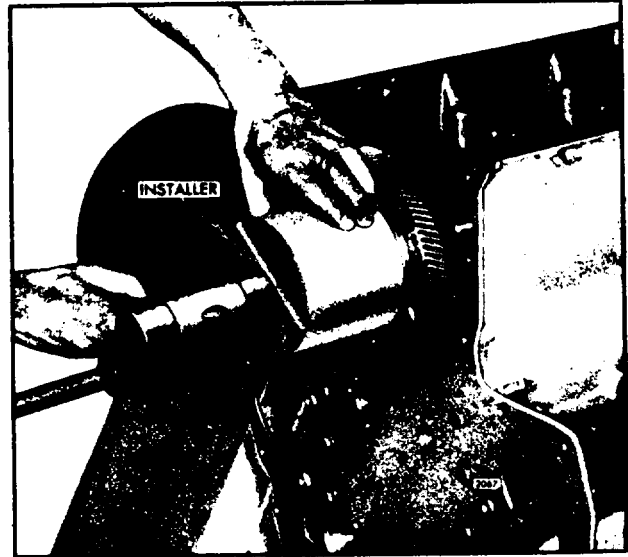

Fig. 2. - Installing Crankshaft Timing Gear With Installer J 7557
3. Place a heavy hammer against the head of the bolt in the front end of the crankshaft. Place installer J 7557 against the rear face of the timing gear and drive the gear up against the shoulder on the crankshaft as shown in Fig. 2.